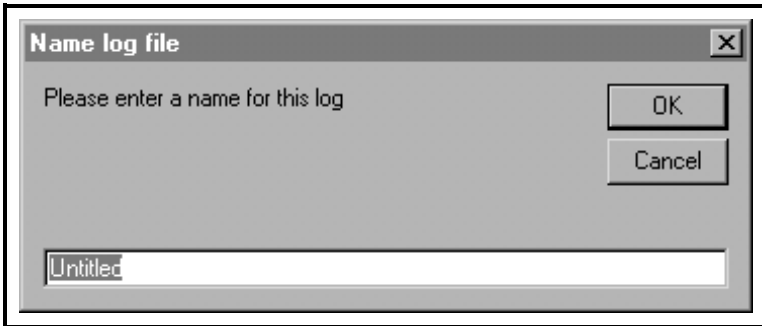

Figure 6-7: The Save As Dialog Box
- Click on the “Save As” menu option to save the data collected during the graphing process as a log file. The dialog box shown in Figure 6-7 on page 6-12 appears. Enter a name for the log file and click on the [OK] option button to save the file as